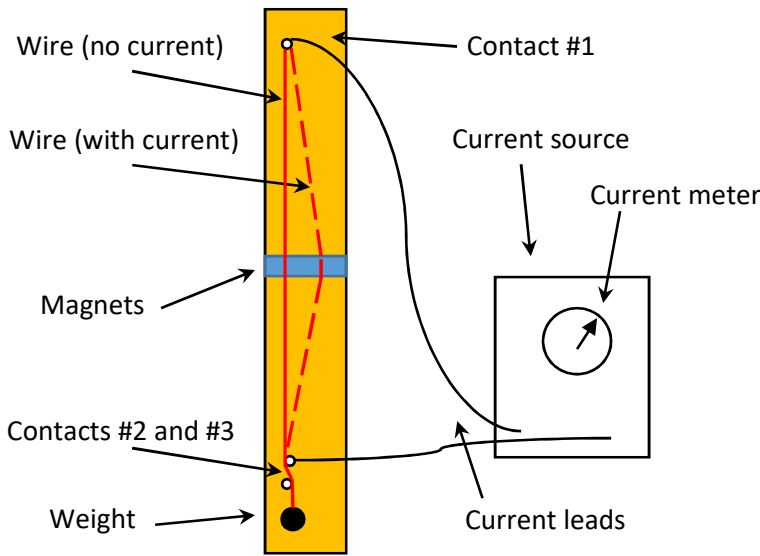
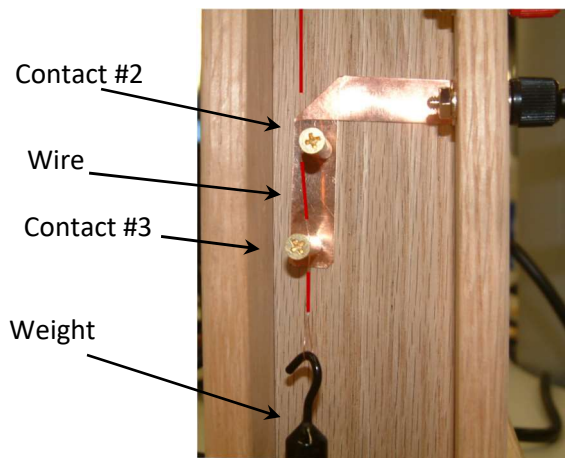

Figure 1
Figure 3
- Magnet and wire assembly (see Figure 1)
Two very strong magnets with a small gap between them are placed at the middle of a wood board, standing vertically (see Figure 1). A copper wire is attached at the top of the board (contact #1), with a current lead connecting it to the power supply (current source). The wire is threaded in between the magnets, and a weight is attached to the other end (see Figures 1 and 3). The wire is also arranged so that it touches the both of the lower electrical contacts that are also connected by a lead to the current source. Before connecting the power supply, make sure that the wire runs **between** contacts #2 and #3 at the bottom as shown in Figure 3.
1. Make sure that the wood board is approximately vertical and the wire is threaded between the magnets. Connect a 20g weight to the lower end of the wire. Insert the wire between the lower electrical contacts (contacts #2 and #3, see Fig. 3).
2. Measure the distance L between contact #1 (the top end of the wire) and contact #2, the upper of the two contacts at the bottom (see Figs. 1 and 3).